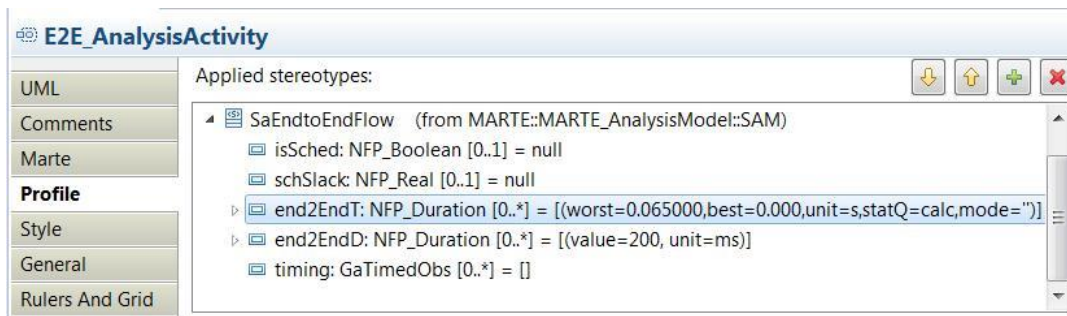

Figure 53 End2End Analysis results in Activity diagram SaEnd2EndFlow properties
14. The end2end Response Time property in the Activity <<SaEndtoEndFlow>> is updated with the analysis results (Figure 53)